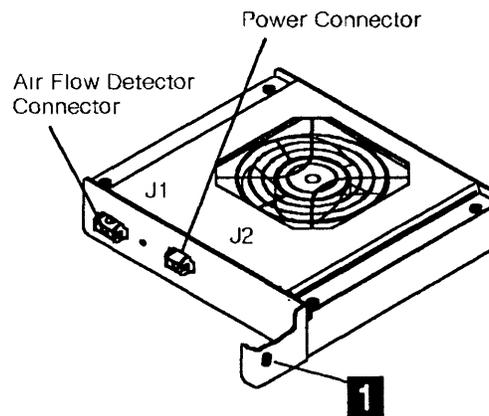

Figure 4-67. Fan 1 Air Flow Detector and Power Cables
6. At Fan 1, disconnect the air flow detector cable and the power cable. Refer to Figure 4-67.